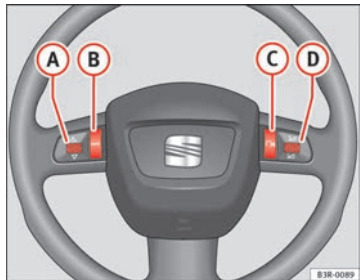

Fig. 65 Controls on the multifunction steering wheel
The functions are operated by pressing or scrolling the controls (A) to (D) on the multifunction steering wheel => Fig. 65: